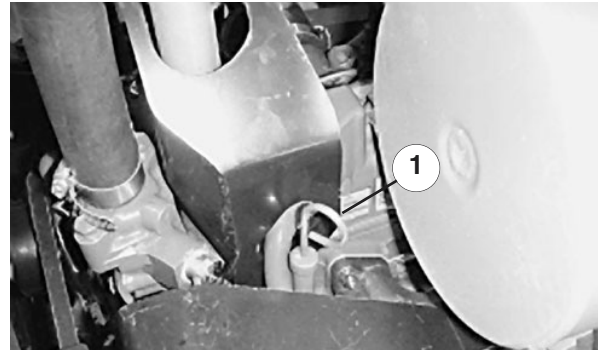

Figure 3
2. Remove the dipstick (Fig. 3), wipe it clean and reinsert it. Remove the dipstick and check the oil level. The oil level should be to the FULL mark on the dipstick.